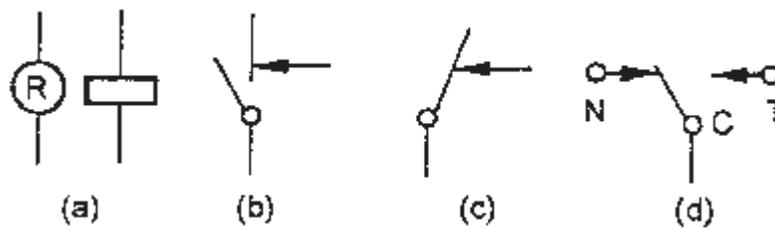

Fig. 10-2 Circuit symbols of relay
The commonly used circuit symbols of relays are shown in Fig. 10-2. Either circle or rectangle in Fig. 10-2(a) represents the relay coil. The normally open contacts are often abbreviated NO as shown in Fig. 10-2(b). The NO contacts will make when the coil is energized. The normally closed contacts (NC), shown in Fig. 10-2(c), will break when the coil is energized. Combination of two stationary contacts and one movable contact which engages one stationary contact when the coil is energized and the other stationary contact when the coil is not energized is called a single-pole double-throw (SPDT) relay as shown in Fig. 10-2(d). The movable contact is called common contact abbreviated as C. The normal contact (N) is NC and the transfer contact (T) is NO.